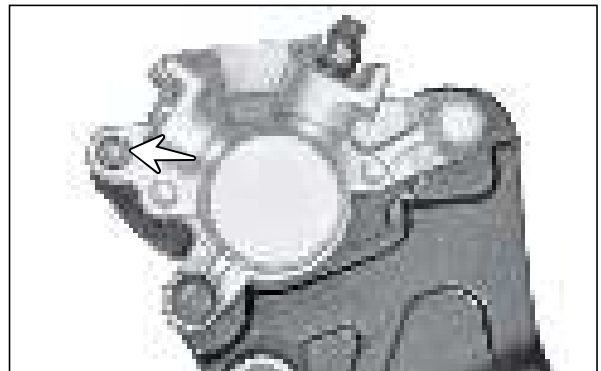

Fig. 6.120
- Remove the pin hanger. (Fig.6.120)